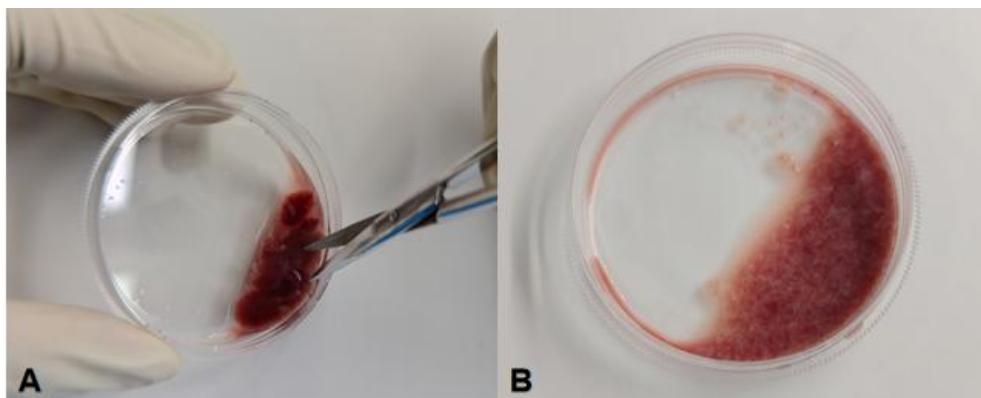

Figure 1. Treatment of liver tissue in vitro
- (1) Tissue Washing: Using a new set of ophthalmic scissors 3, curved forceps 1, bend forceps 1 to clamp the junction of the liver lobes and gently shake the liver tissue. At this time, blood stains flow out. discard the liquid in the dish and add new wash solution until the tissue is completely immersed. Rinse the tissue 2-3 times and use ophthalmic scissors 3 and curved forceps 1 to clean the blood stains, bile ducts, and blood vessels around the liver to obtain pure tissue. Transfer the tissue to a new glass culture dish, Add a little of **Specialized Washing Solution For Mouse Kupffer cells** until it just covers the tissue.
- (2) Tissue Processing: Tilt the dish about 45° to allow the liver tissue to gather at the bottom of the dish(which can be gently scraped off with curved forceps 1). Quickly cut the tissue into 1 mm³ pieces using ophthalmic scissors 3, until the tissue is sugar like (as shown in Figure 1) and there are no large pieces of tissue. Use a Pasteur pipette or a pipette with a wide mouthed tip to transfer the tissue fluid and transfer it to a 50 mL centrifuge tube. Add 5 mL **Specialized Washing Solution For Mouse Kupffer Cells** to clean the liver tissue culture dish and transfer it to the same centrifuge tube. Centrifuge at 300 g for 1 min, discard the supernatant, and retain the tissue precipitate.
- (3) Tissue Digestion: Add 5 mL of **Digestive Working Solution for Mouse Kupffer Cells** to the 50 mL centrifuge tube tissue sediment, blow and mix well, tighten the bottle mouth, wrap it with a sealing film to ensure no leakage, tilt it to allow tissue fragments to fully contact the digestion solution at 4℃ for 16 hours of digestion (digestion time should not exceed 16 hours, as excessive digestion will have a significant impact on cell activity).
- (4) After digestion, remove the centrifuge tube and transfer it to a 37℃ water bath shaker at 150 rpm for 15 minutes of digestion..
- (5) In the ultra-clean workbench, place a 70 μm Cell filter and 100 μm Cell Filter on a new 50 mL centrifuge tube. Pre-wash the filter with 1–2 mL Specialized Washing Solution For Mouse Kupffer Cells.
- (6) Cell Filtration: Remove the centrifuge tube and open it in the ultra-clean workbench. Blow the tissue suspension with a 5 mL pipette tip at least 30 times. Add 5 mL of **Specialized Washing Solution For Mouse Kupffer Cells** to dilute. Take the cell suspension at this time and filter it through a 100 μm cell filter and a 70 μm cell filter in sequence to collect the filtrate.